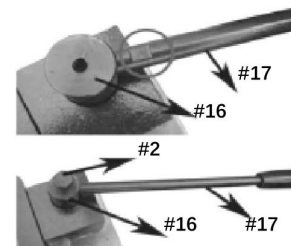

Figure 3
4. Insert crank rod (#17) with grooved surface facing up, and insert it into the hole of eccentric shaft (#16), insert screw (#2) into groove and tighten (refer to figure 3). The universal bender is now ready to use .